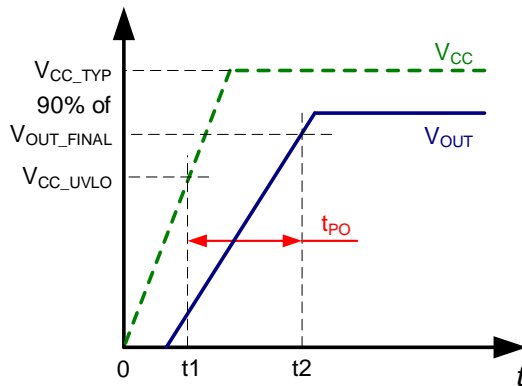

Figure 5: Power-On Time (t_{PO})
2. t_2 : V_{OUT} settles 90% of its final value under an applied primary current (see Figure 5).